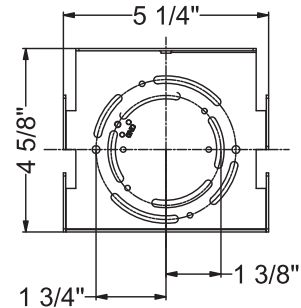
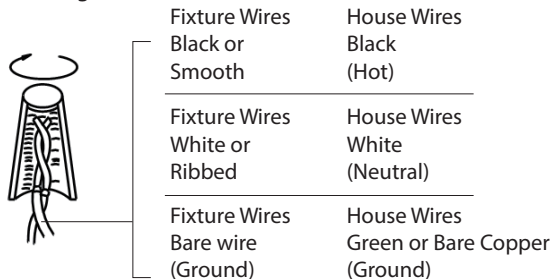

Fig. 2 Wiring
FIG.3 Driver Wiring
### MOUNTING THE FIXTURE (Fig. 1/ Fig.3)
Note: Due to limited room within the canopy, shorten the cable as necessary to make the installation easier. Make sure to identify and label all the wiring properly before any trimming/shortening.(Fig.3)
### CONNECTING THE WIRES (Fig. 2/ Fig.3)
7. Connect the driver output wire with fixture wire as shown in Fig. 2 red to the red, and black to the black. make sure connectors (B) are secured.
8. Connect the driver input wire with junction box as shown in Fig.2, make sure that all wire connectors (A) are secured. If your outlet box has a green or bare copper ground wire, connect the fixture's ground wire to it. Otherwise, connect the fixture's ground wire directly to the back plate using the GND screw provided. After wires are connected, tuck them carefully inside the junction box.